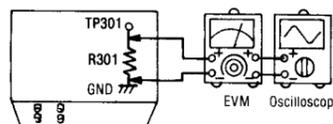

Fig. 6
1. Test equipment connection is shown in Fig. 6.